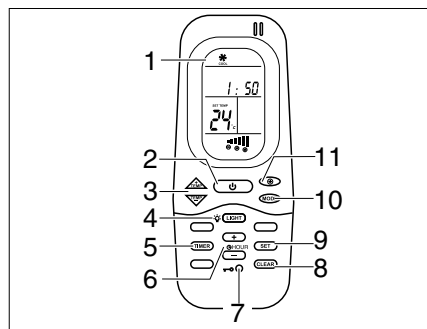
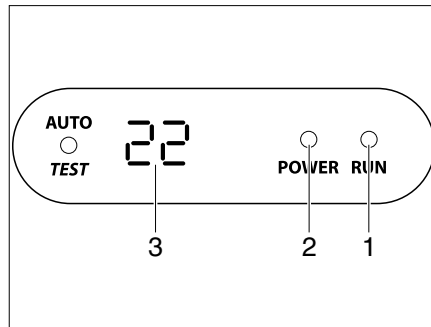

Fig. 319 Remote control
Fig. 320 Display on the diffuser
The air conditioning unit is located on the roof of the vehicle. The remote control (Fig. 319) for the air conditioning unit is located in the kitchen area.
- Connect the vehicle to the 230 V power supply. The air conditioning unit is ready to operate. The LED (Fig. 320,2) on the diffuser's display lights up red.
- To switch on, press the on/off switch (Fig. 319,2) on the remote control. The LED (Fig. 320,1) lights up green when the air conditioning unit is in cooling mode. The LED (Fig. 320,1) lights up red when the air conditioning unit is in heating mode.
- Set the desired operating mode using the MODE button (Fig. 319,10).
- If necessary, set the desired fan level by using the button (Fig. 319,11) and the room temperature by using the buttons (Fig. 319,3).
- To switch off, press the On/Off switch (Fig. 319,2) on the remote control again.
- To carry out programming, switch on the air conditioning unit with the On/off switch (Fig. 319,2) on the remote control.
- Press the TIMER button (Fig. 319,5). The ON indicator for the Start time is activated.
- Set the time with the TEMP (+/-) buttons (Fig. 319,3).
- Press the TIMER button (Fig. 319,5) again. The OFF indicator for the Start time is activated.
- Press the TIMER button (Fig. 319,5) again.
- Upon completing the setting, press the SET button (Fig. 319,9).
- Press the CLEAR button (Fig. 319,8) to delete the timer programming.